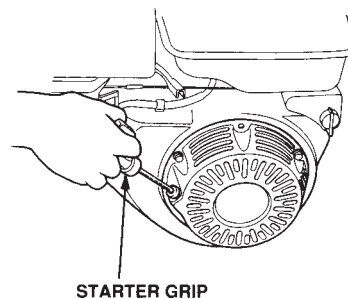

Figure 14. Starter Grip
6. Pull the **starter grip** (Figure 14) lightly until you feel resistance, then pull briskly. The drum should be rotating at this time.